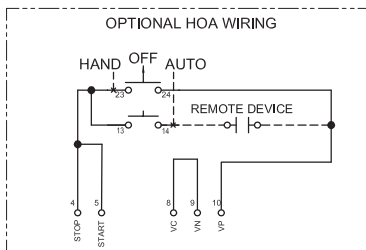

Figure 3: Top level
9. The green "Power on" LED should be lit and the LCD should appear as shown in Figure 3.